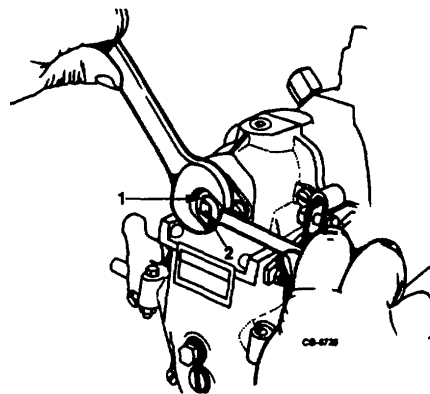

Figure 13. Adjusting Full Load Fuel Setting
- b. Loosen rack stop assembly lock nut (Figure 13) and adjust control rack, with adjusting stud, to specified rack dimension (see CALIBRATION CHART).